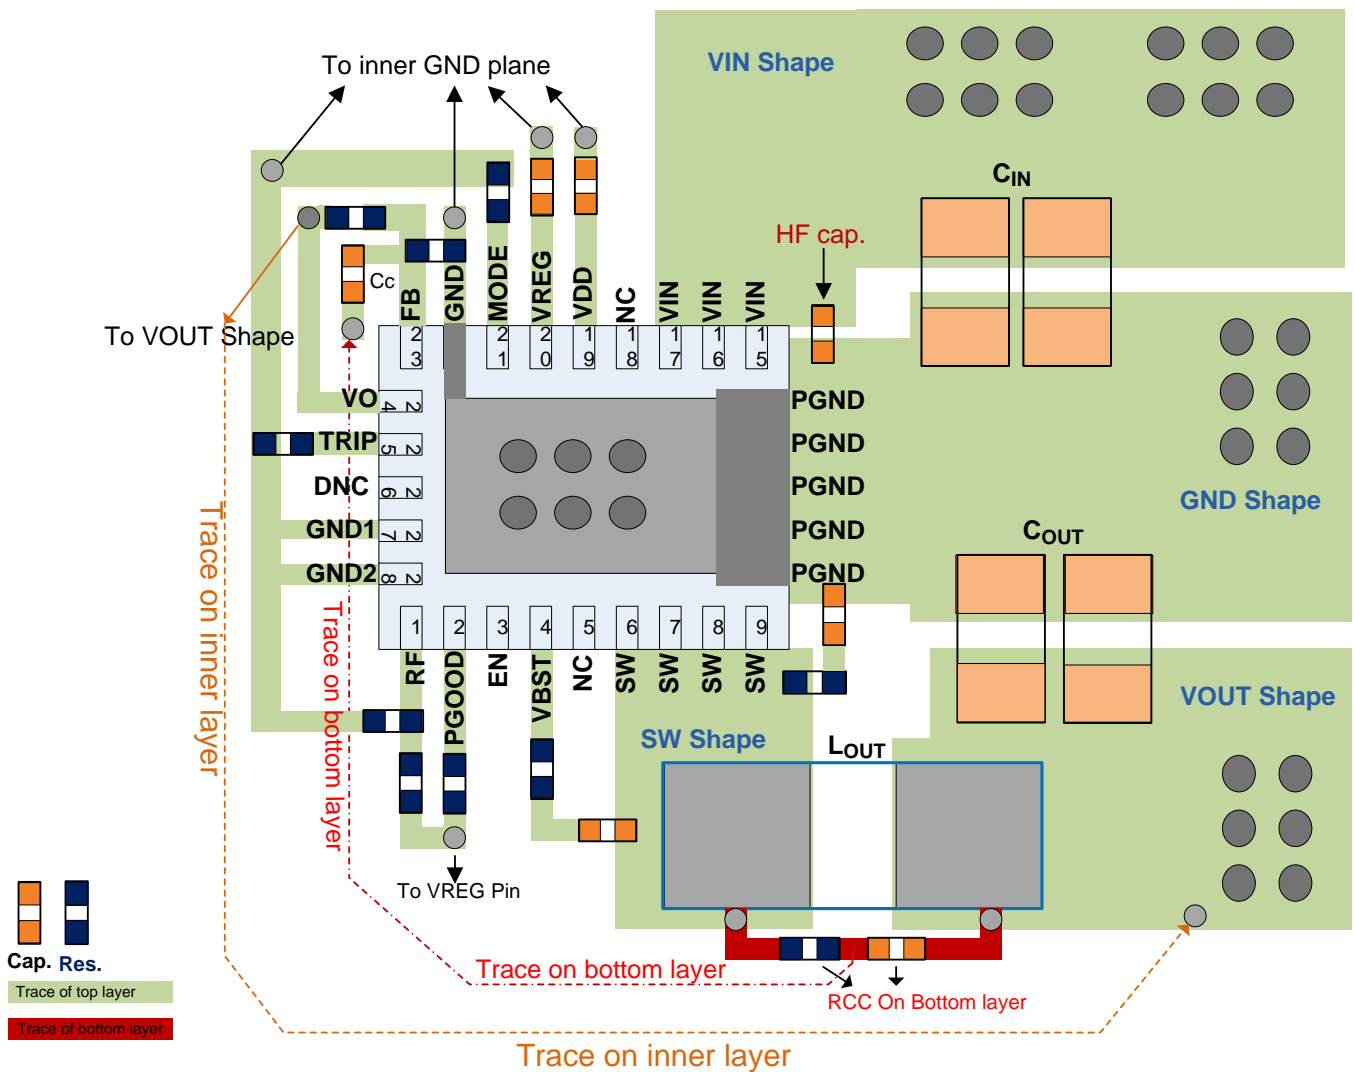

Figure 50. Layout Recommendation
- See Figure 50 for the layout recommendation.